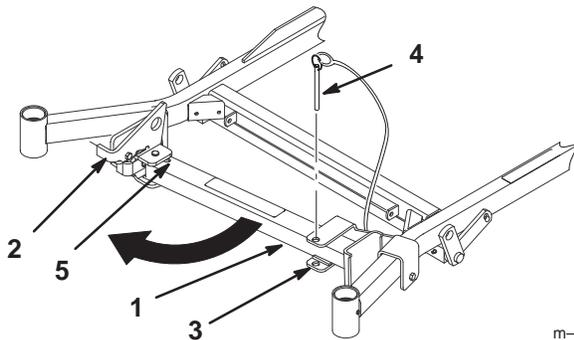

Figure 24
2. Remove the bracket pin (Fig. 24).
3. Raise the latch. Swing the stand foot out front and slide the stand toward the machine, into the bottom of the slot (Fig. 24 and 25).
4. Return the stand to its rest position (Fig. 24).